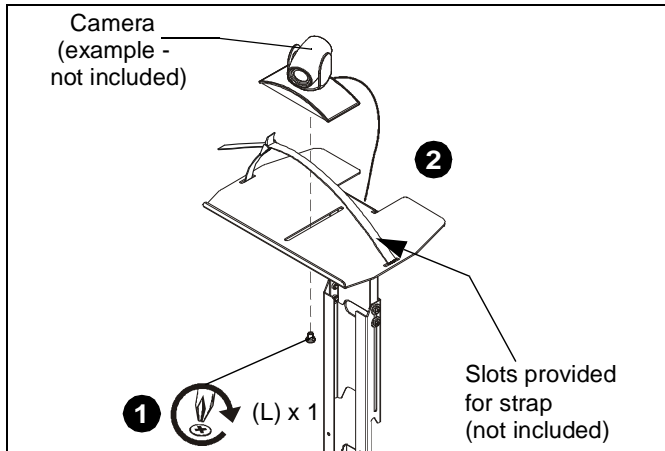

Figure 5
NOTE: OPTIONAL: Slots are provided in shelf for strap (not included) to hold component in place. (See Figure 5)
1. Install 1/4-20 x 3/8" Phillips pan machine screw (L) through mounting slot on shelf and into hole on bottom of camera (not included). (See Figure 5)
2. Route cable from camera towards back of shelf and down behind the cart. (See Figure 5)